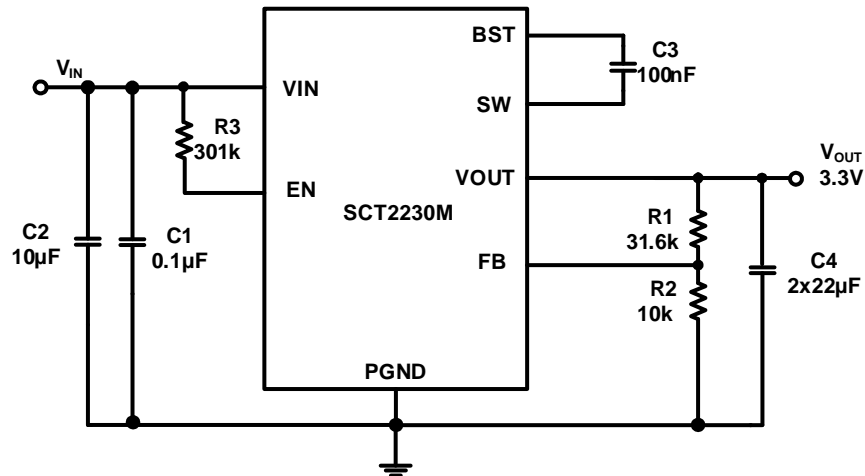

Figure 8. 12V Input, 3.3V/2A Output
The SCT2230M features external programmable output voltage by using a resistor divider network R1 and R2 as shown in the typical application circuit Figure 8. Use equation (10) to calculate the resistor divider values. When the output voltage is higher than 3.3V, it is recommended to reduce the R2 resistance to within 3K to improve the anti-interference ability of FB.